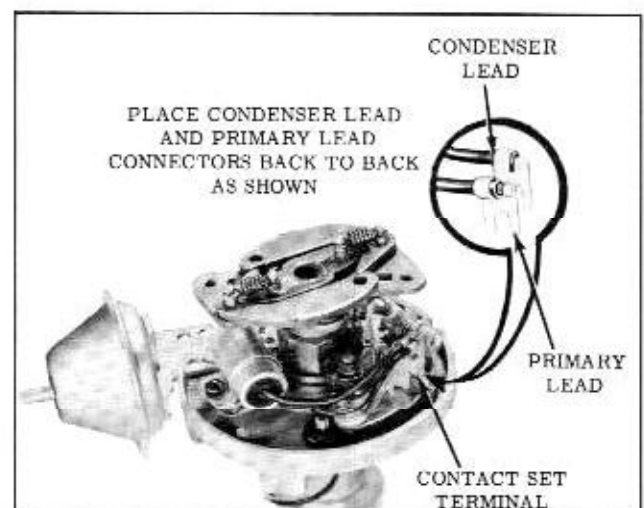

Fig. 13-73 Condenser and Primary Lead
5. Connect the primary wire to the contact set terminal. (Fig. 13-73)